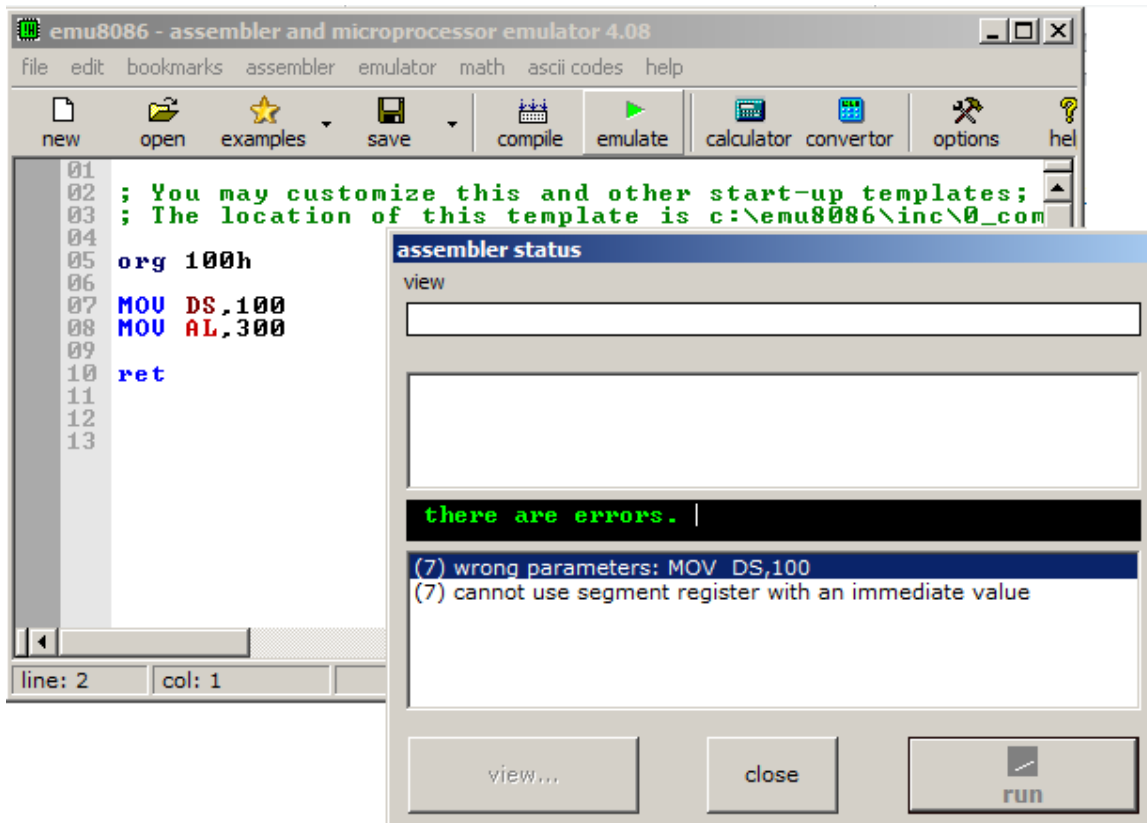

Figure 3: Compiling an example code containing errors
- a. If the code contains any errors, a new window will be opened, showing the first error, with a description of the error reason and location. An example error is shown in *figure 3*.